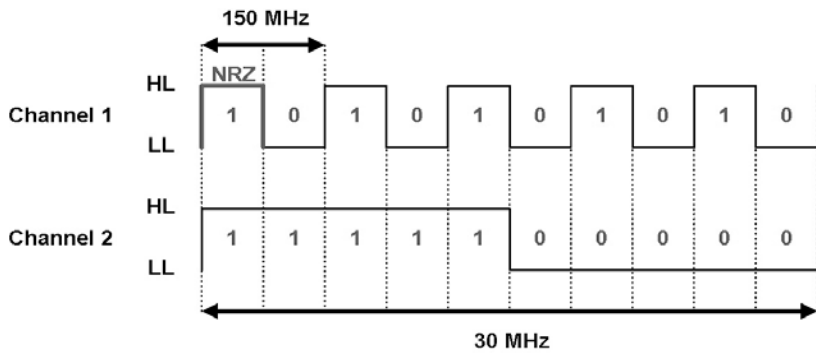

Figure 4
- programmable patterns of NRZ-Pulses (figure 4)